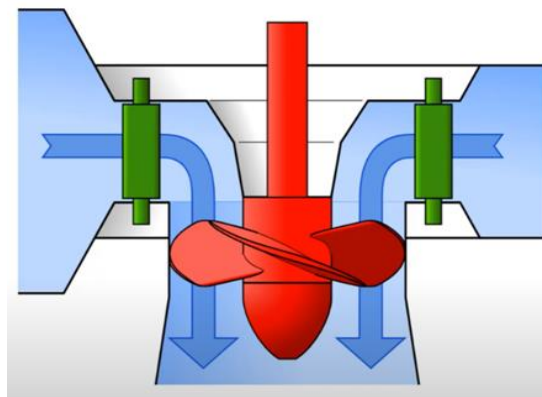

Fig. 10 Kaplan Turbine
11.1 Efficiently convert the kinetic energy of water in low-head environments into mechanical power for different operating conditions i.e., 1/4th, 1/2th, 3/4th, and full opening contributing to sustainable energy generation in fig.10
11.2 Calculate the overall efficiency of Kaplan turbine as shown in fig.10